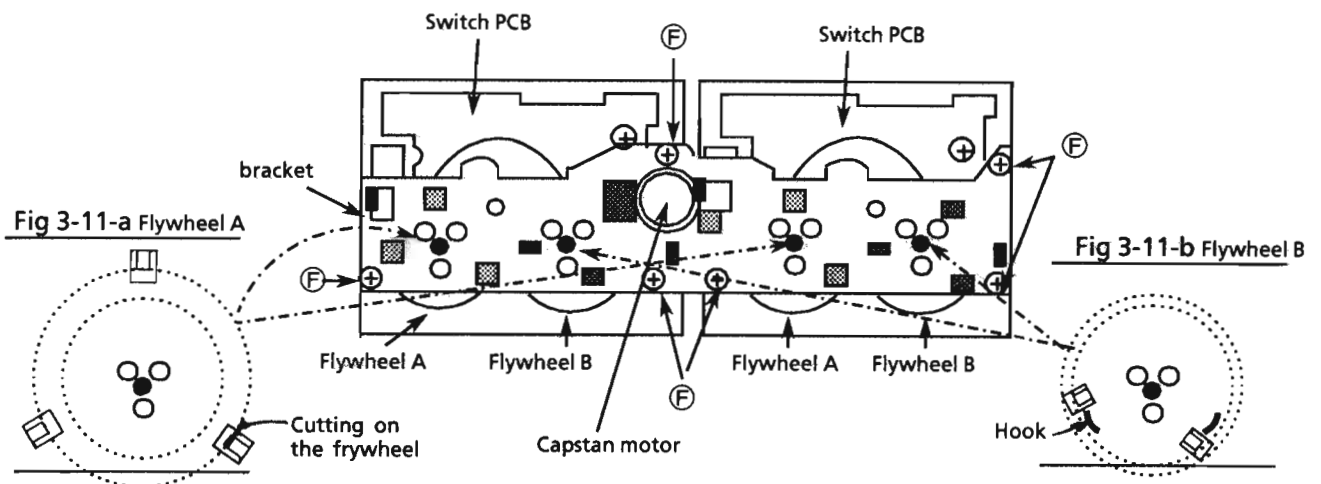

Fig. 3-11 Cassette mechanism bottom view
3. Remove the 6screws (F) holding the bracket.
5. Put the cutting on the flywheel A together the bracket's pawl as shown in Fig. 3-11-a and check that the flywheel B is removed from the bracket's pawl(Fig. 3-11-b).